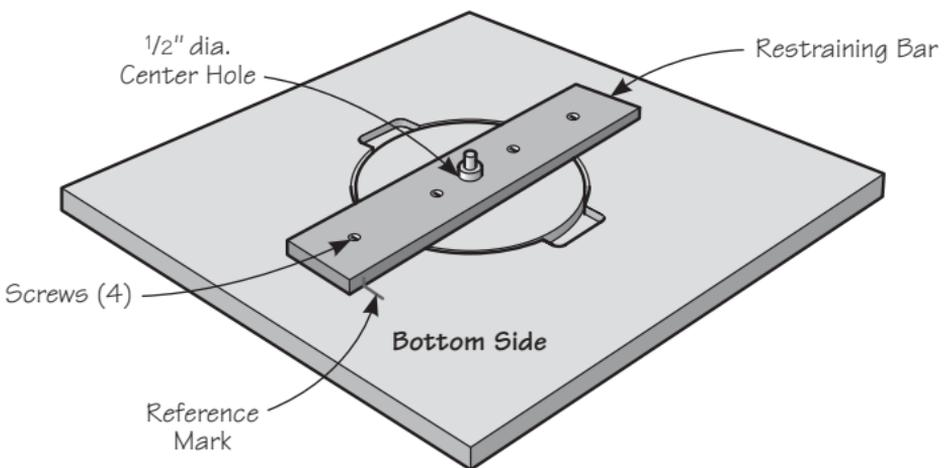

Figure 4: Fitting of the restraining bar.
6. Make the restraining bar shown in **Figure 4** (from scrap wood) 2" to 3" wide, and 13" to 15" long. The thickness of the bar should not be greater than the scraps of wood that were previously used to elevate the table top (ref. *step 4*). Drill only the 1/2" diameter hole in the center of the restraining bar. While the top is still inverted, attach the restraining bar with four screws as shown, using the alignment pin to ensure that the 1/2" hole in the bar remains concentric with the 1/2" hole in the top. Make an identifying reference mark on the restraining bar and adjacent table top surface, so the bar can be removed and replaced in the exact same position if necessary.